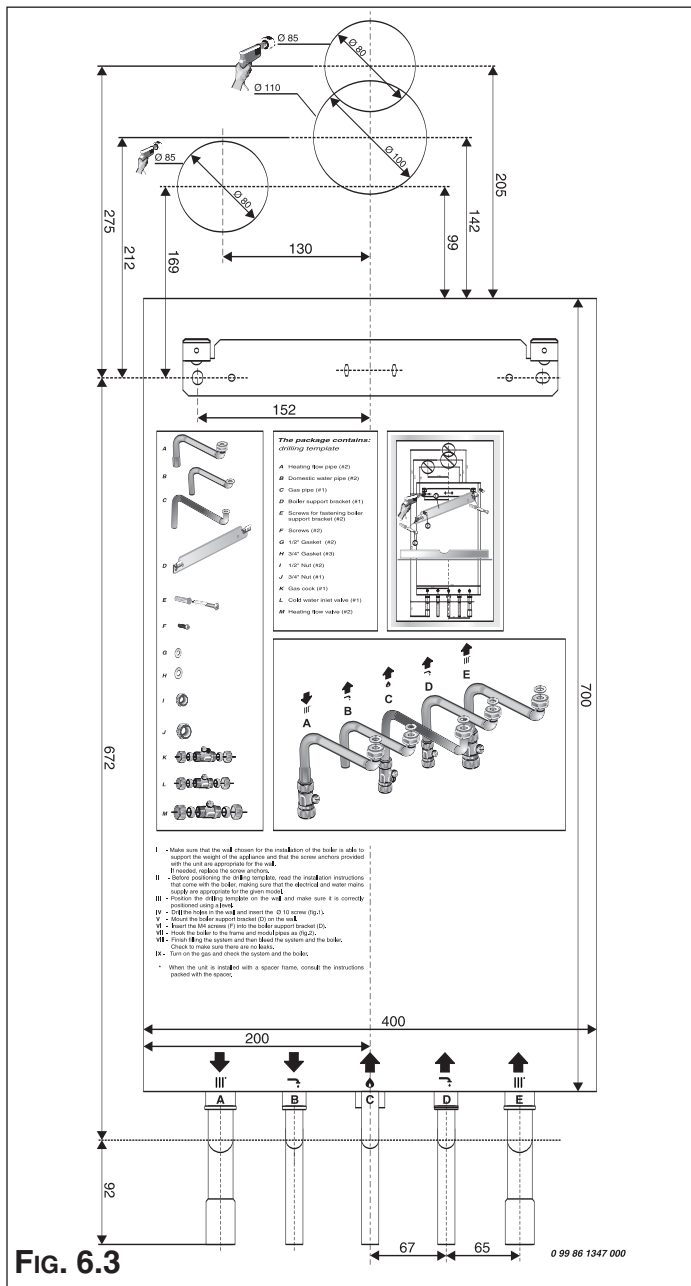

Fig. 6.3
**2.5.2.** Position the appliance on the hanging bracket and connect the isolating valves supplied in the connection kit as shown on the wall template (see also Sections 6.7 Gas Connections, 6.8 Water Connections & Fig. 6.3).